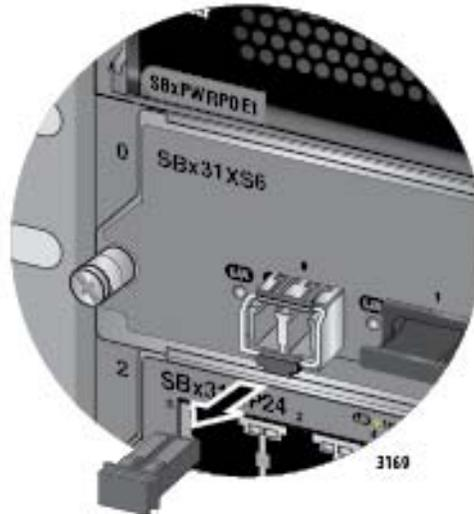

Figure 95. Removing the Dust Cover from an SFP+ Transceiver in the AT-SBx31XS6 Line Card
4. Remove the protective cover from the SFP transceiver, as shown in Figure 95 on page 157.